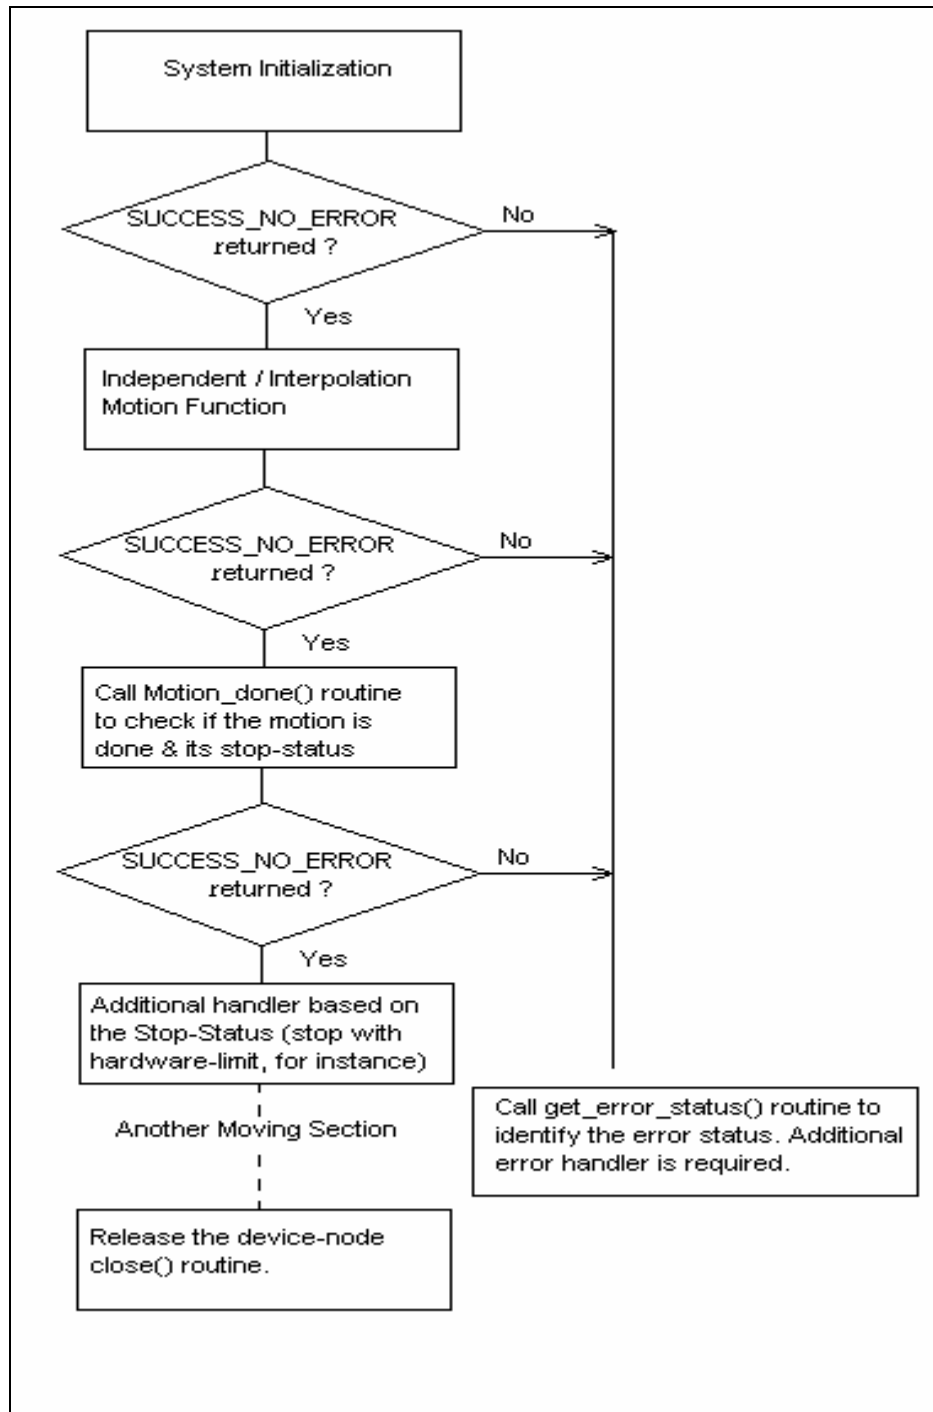

Figure 1 - typical programming following-chart
- ✧ The routines are re-defined and the simpler programming follow-chart (refer to the figure 1).